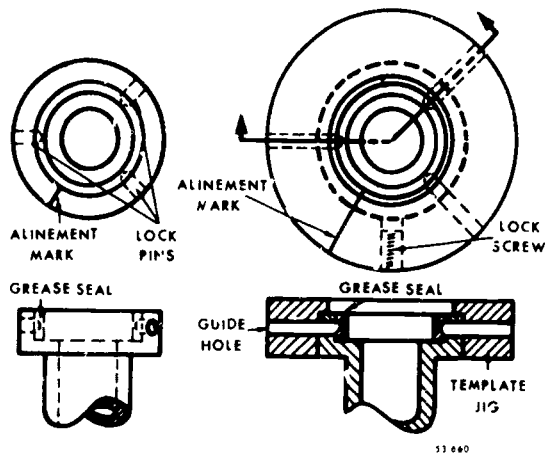

Figure 1-6 Template jig
**Jigs.** The various types of jigs—especially drill jigs—are our concern here. As we have stated earlier, jigs hold, support, and locate the part to be machined in addition to guiding the cutting tool. Jigs can be divided into two general classes: (1) drill jigs and (2) boring jigs. Because of limited equipment, drill jigs are used more by the Air Force machinist than are boring jigs. For this reason, we will limit our discussion to drill jigs. This takes in the (1) template, (2) plate, (3) channel, (4) angle plate, (5) closed box, (6) indexing or rotary, and (7) combination jigs.
**Template.** The template jig is used for limited production. It is employed more for accuracy in locating the drill bit than it is for labor- or time-saving. The template jigs, shown in figure 1-6, were designed for drilling out three pins that hold a grease seal. These pins could not be drilled out accurately by any other method.